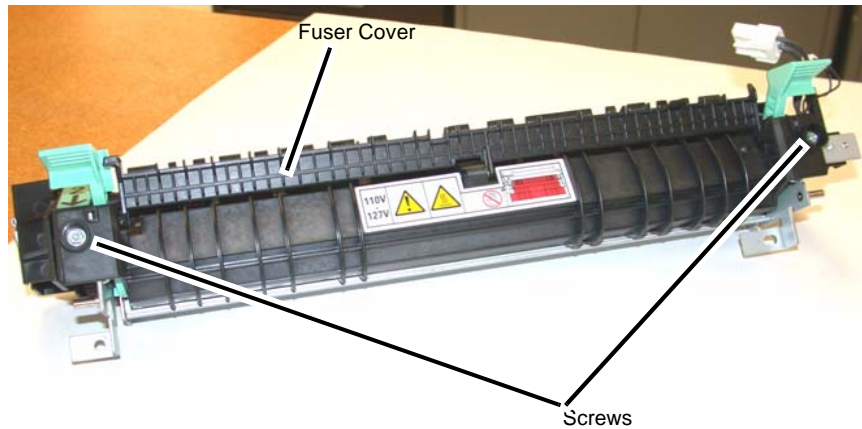

Figure 1 Removing the Fuser Cover
2. Remove the Fuser Cover (Figure 1).